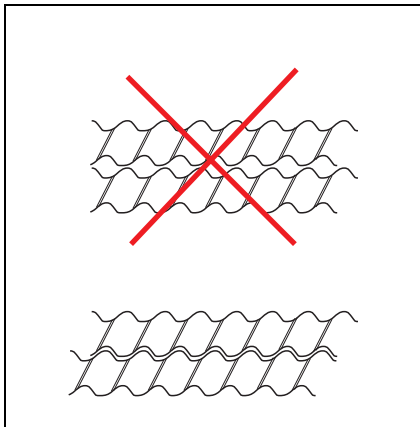

Fig. 6.7 Positioning the screws
4. Turn the twin screws so that the helices of the one screw move in the gaps of the helices of the other screw (see Fig. 6.7).